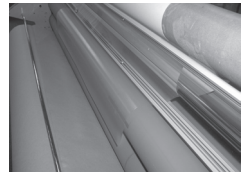

Figure 3
3. Adjust the pressure lever to ensure the proper opening (Figure 3).